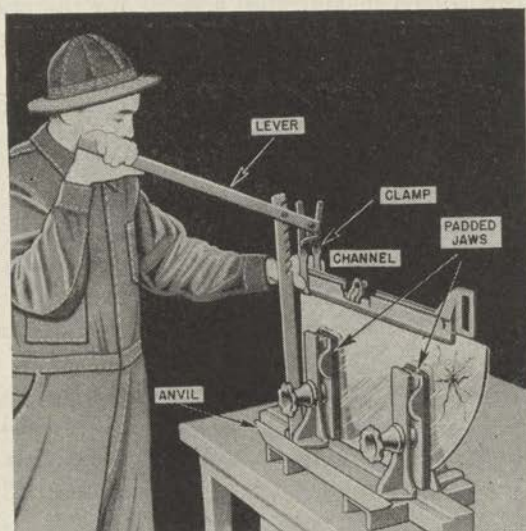

FIGURE 131.—Glass vise.
(3) The glass vise (fig. 131) has padded jaws to hold glass without scratching or cracking it. The notched upright column can be fitted to the vise and used as a fulcrum against which to pry off channels. Fit the lever into a notch at about the angle shown in the figure and grip the channel in the clamp. Press moderately on the